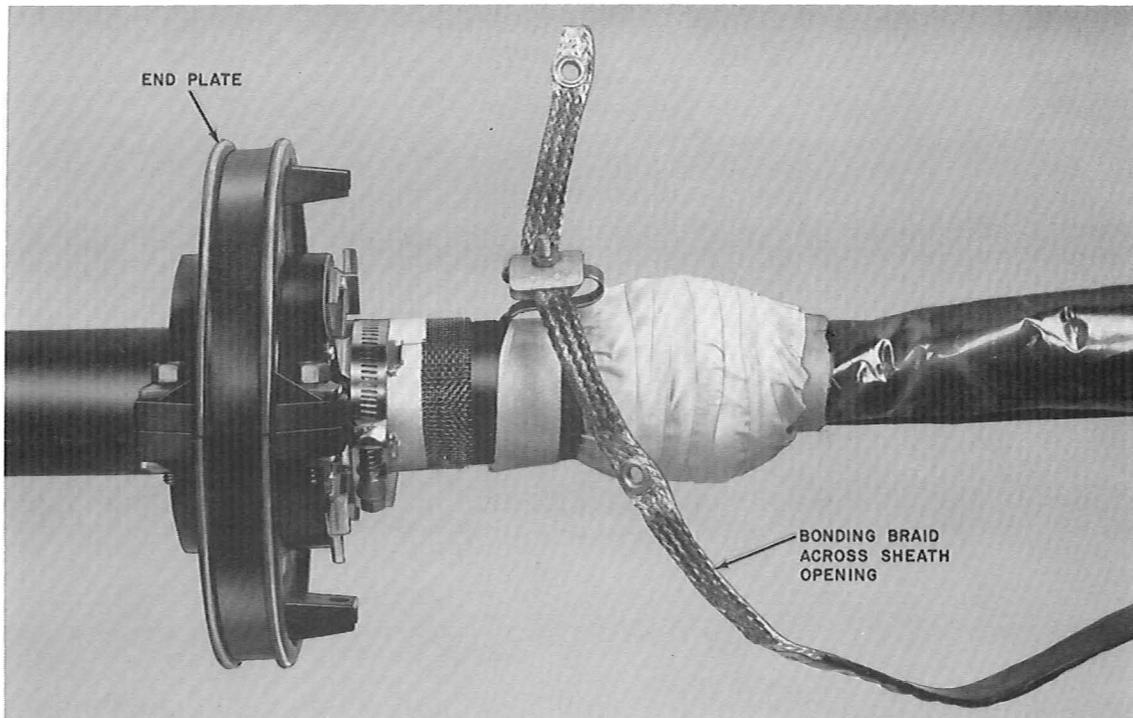

Fig. 12—Completed Wrapped Joint and Installed End Plate
5.08 Fold the bond ribbon back prior to end plate installation as shown in Fig. 12.
6.01 Install end plates on each side of cable sheath as outlined in Section 633-506-201. The jaw tooth clamps must be positioned over the brass wire cloth as shown in Fig. 12 to prevent the teeth from penetrating the cable sheath.